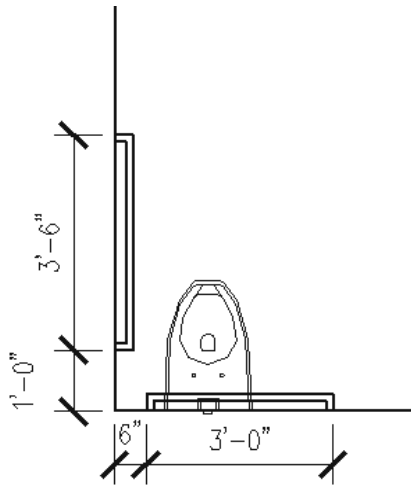
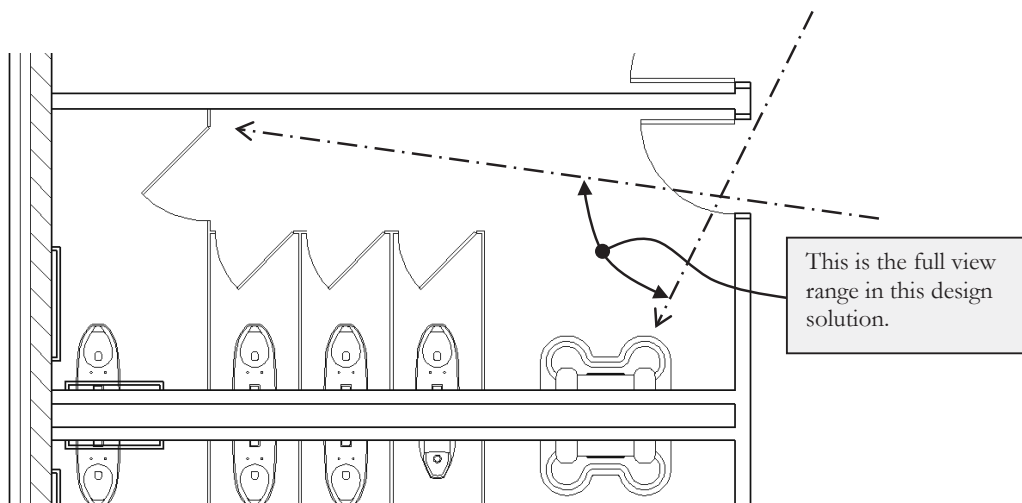

FIGURE 4-1.6A Grab bar dimensions;
FIGURE 4-1.8 Dashed lines reveal unacceptable sightlines into the toilet room
- b. See **Figure 4-1.6a** for the grab bar dimensions.
- b. See **Figure 4-1.6a** for the grab bar dimensions; see Figure 4-1.8 for grab bar locations.
- c. The northern room has (3) toilets and a Lavatory System.
- d. The southern room has (2) toilets, a urinal and a Lavatory System (obviously this is the Men's toilet room).
An unacceptable design solution is shown in **Figure 4-1.8**. The toilet room is much larger and can even have another toilet fixture without the door modification for sight-lines; also, the door is right off the circulation path, which can be problematic. Notice two lines are shown to visualize the full visual range. Granted, some of this view is obstructed by a person's body as they pass through the door opening; it is still an undesirable design solution.